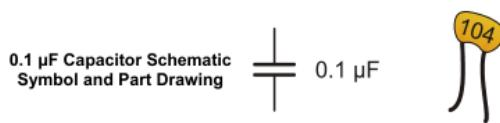

Figure 20: Capacitor.
A *capacitor* is an electrical component that is able to store a charge. They are fundamental building blocks of many circuits, and are utilized in virtually every electronic device. The amount of charge that a capacitor is able to store is measured in units called Farads (F). One Farad represents a fairly large amount of charge storage capability, so for the Boe-Bot, we will be using capacitors that are on the order of μF (1 millionth of a Farad). Figure 20 shows a schematic for a 0.1 μF capacitor along with a drawing of the part. Notice that the 104 marking on the capacitor indicates its value.